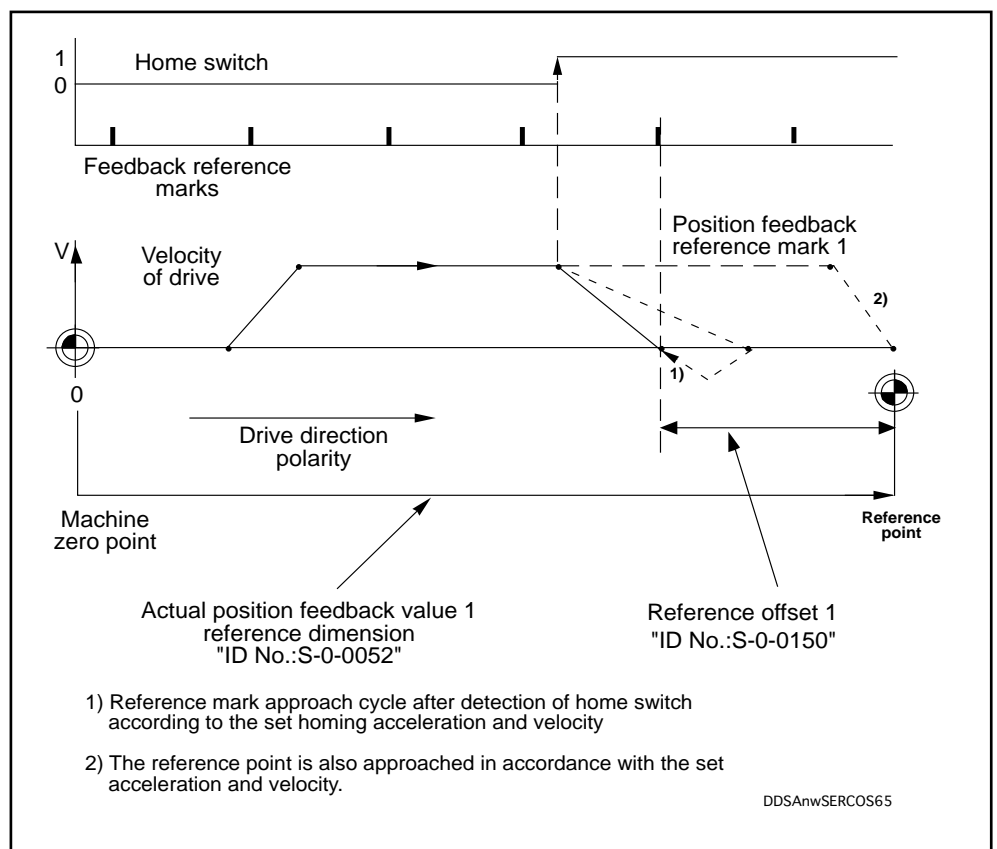
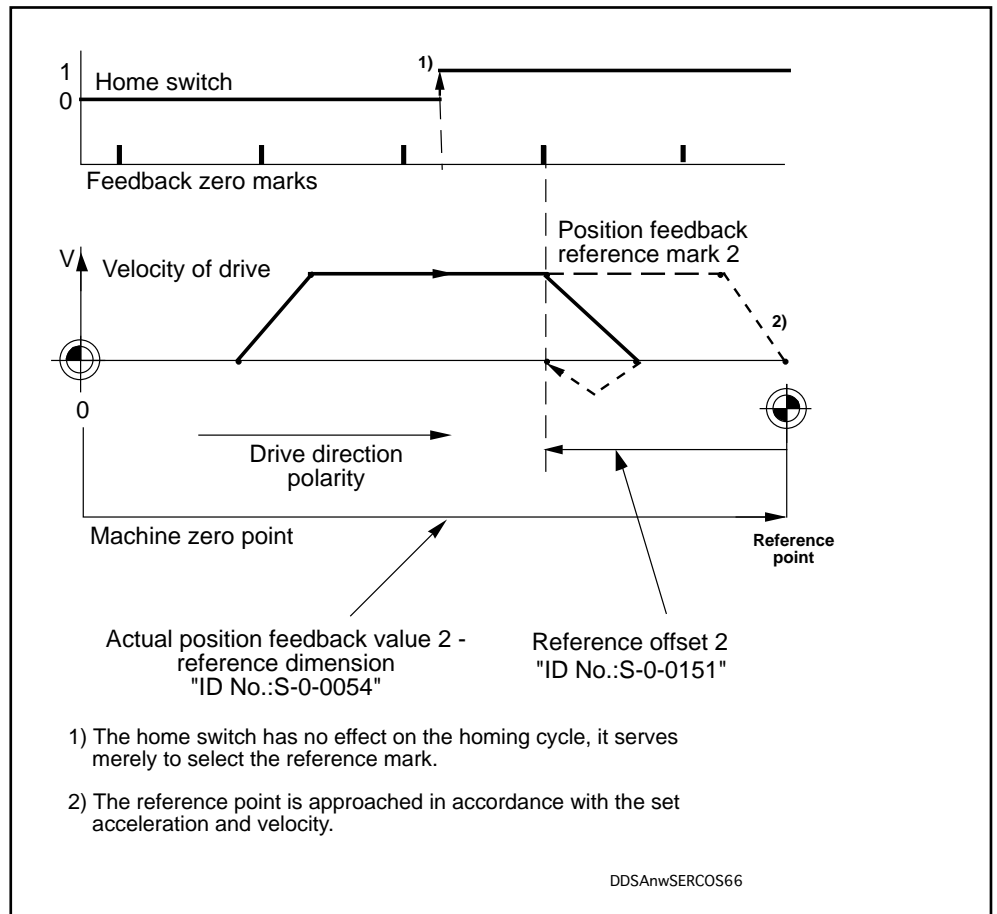

Fig. 7.54: Designation of reference dimension parameters for indirect position measurement
Fig. 7.55: Designation of reference dimension parameters for direct position measurement
- The assignment of the reference dimension parameter is shown in Fig. 7.54 for indirect position measurement using the motor encoder and in Fig. 7.55 for direct position measurement using an external position feedback. These figures also illustrate the homing cycle as such.